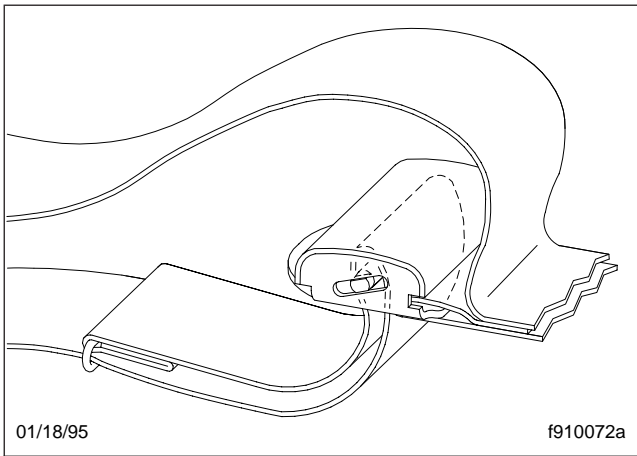

Fig. 5.14, Tether Belt Routing
1. Make sure the tether belt is attached to the cab deck and seat frame. Also, check that the belt webbing is correctly routed through the buckle, as shown in Fig. 5.14.